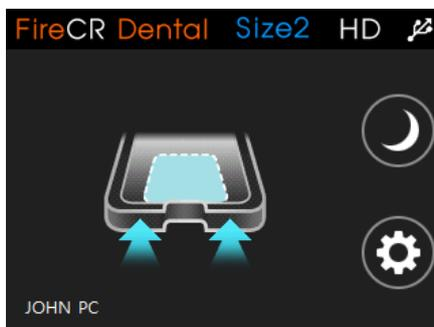

Figure 6.12 Push the Tray
5. Place an IP on the scanner tray. The Scanner LCD screen is changed as shown in Figure 6.12.
If the Fire ID is connected to the PC, skip the scanner connection process shown in Figure 6.12 and tag an IP to the Fire ID to start scanning right away.